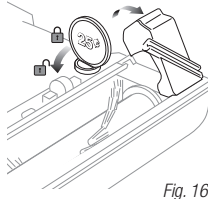

Fig. 16
- 4 Use a coin to unlock and remove the trap door. (Fig. 16)